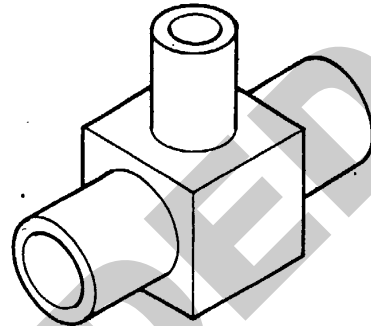

Figure 2
4.2 *reducing tee weld fittings* — machined fittings shaped like the letter "T", for welding tubes in a T-shape. (see Figure 2)